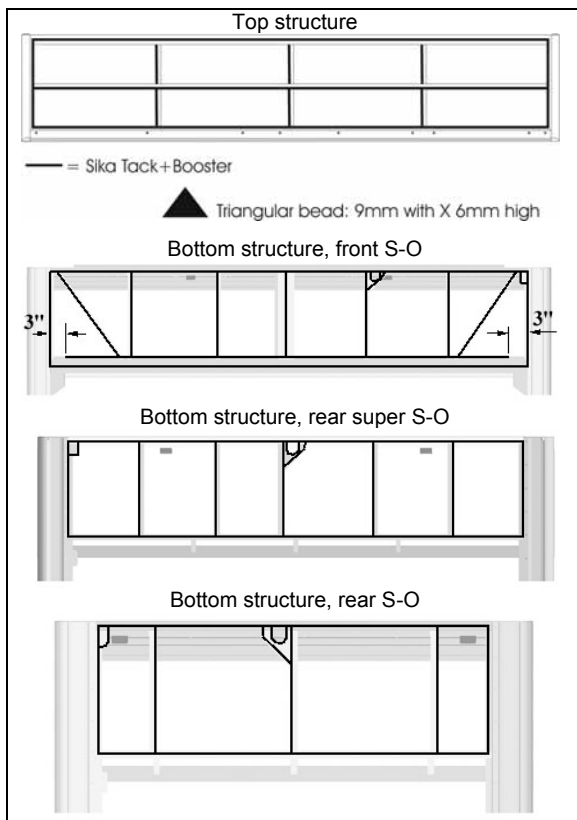
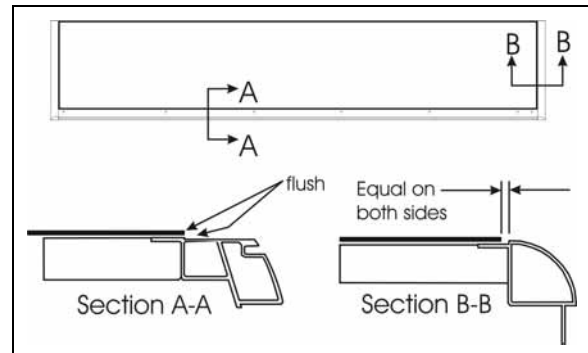
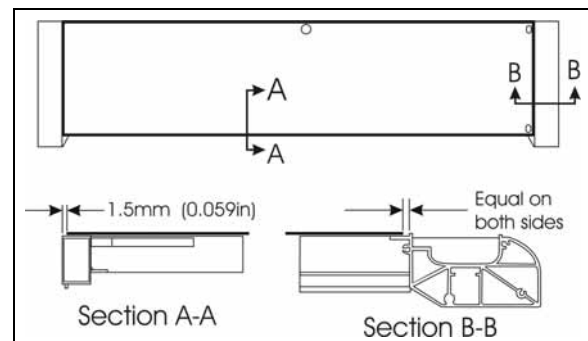

FIGURE 51 : TOP AND BOTTOM PANEL INSTALLATION - SIKA TACK+BOOSTER APPLICATION
FIGURE 52 : TOP PANEL INSTALLATION
FIGURE 53 : BOTTOM PANEL INSTALLATION
5. Apply Sika Tack+Booster (triangular bead: 9mm width X 6mm high) has shown in FIGURE 51 and glue panel in place as shown in figure 52 & figure 53 ;